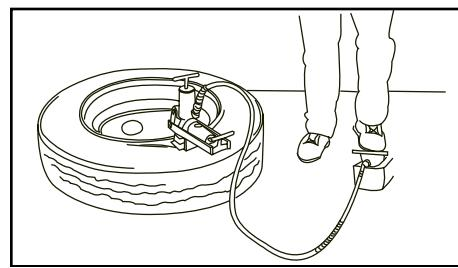

**Figure 5**
3. Maintain the bead breaker, so that it is nearly perpendicular ( $90^\circ$ ) to the rim.(See Fig. 5.) If necessary, adjust the position of the bead breaker.